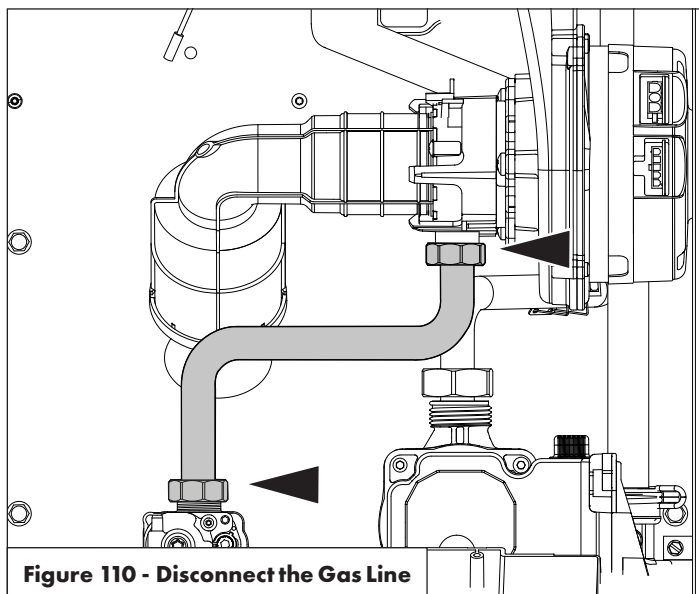

Figure 110 - Disconnect the Gas Line
3. Remove the two nuts above and below the gas valve. See Figure 110.